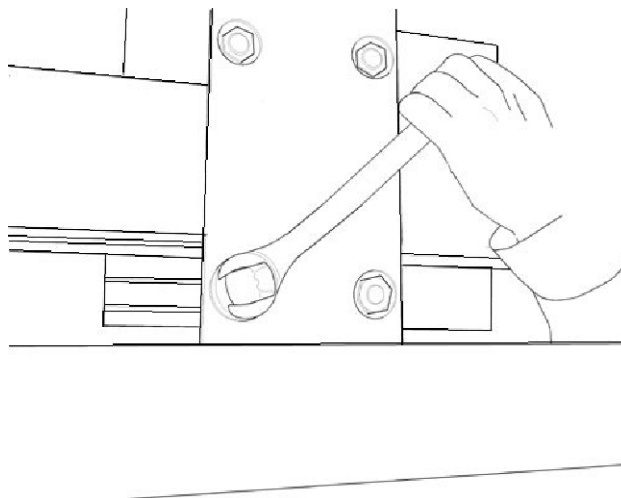

Fig. 5-20 Tensioning the eccentric pivots
9. See Figure 5-20. Tension the eccentric pivots using a spanner until the spring washer preloads.